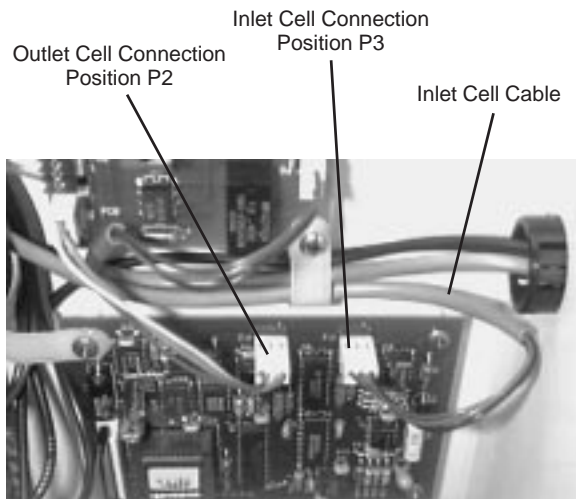

Figure 9 Inlet Cell Cable Connection to Circuit Board
7. Locate the outlet cell connection on the circuit board (see figure 9) and remove the outlet cell connection.